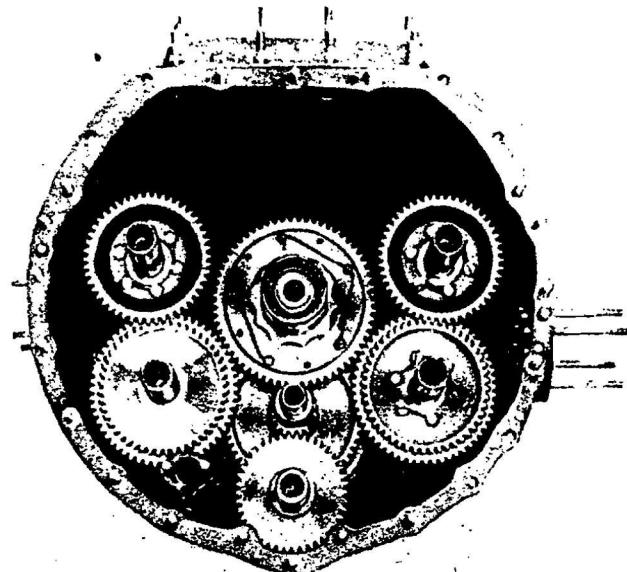

Figure 18—Location and Direction of Rotation
10. The magnetos, generator, starter, fuel pump, oil pump, and other accessories are driven by a series of gears which are located in the supercharger rear housing. See figure 18.